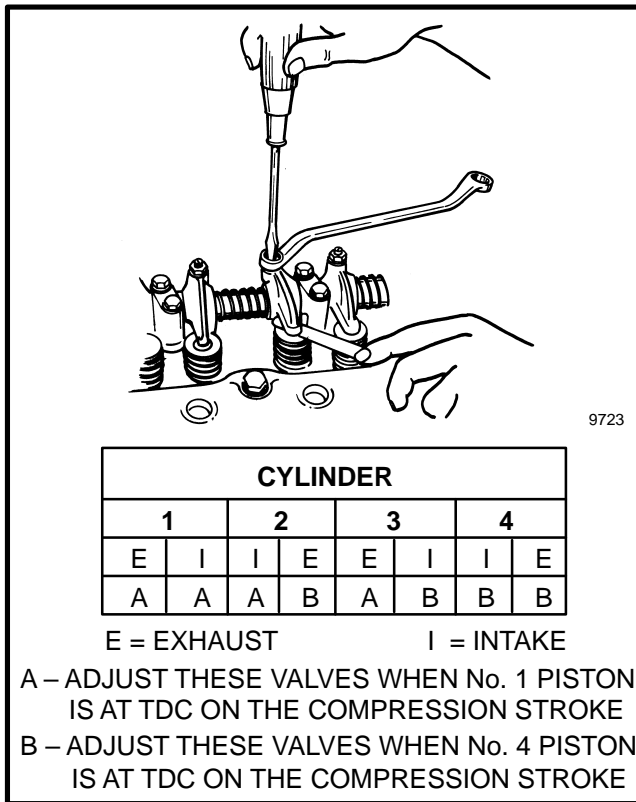

FIGURE 64. VALVE CLEARANCE ADJUSTMENT
The valve clearance is measured between the top of the valve stem and the rocker arm as shown in FIGURE 64. Valve clearance (cold)
2. Adjust the valves that are marked "A" in the table of FIGURE 64. Do the adjustments when the engine is cold. The correct valve clearance for all valves is 0.45 mm (0.018 in).
3. Rotate the crankshaft 360°. At this position, the **number 4** piston will be at TDC on the compression stroke. Adjust the valves that are marked "B" in the table of FIGURE 64.